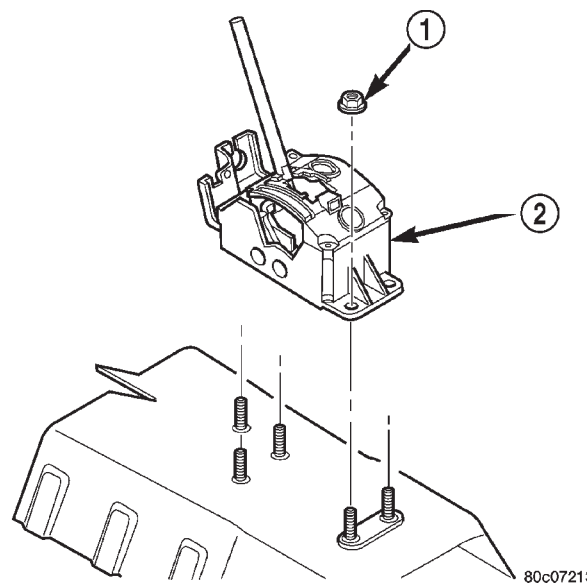

Fig. 62 Shifter Assembly Removal/Installation
(6) Remove the five floor pan attaching nuts from the shifter base and shift cable bracket (Fig. 62).
(7) Remove shifter assembly from vehicle (Fig. 62).
- (1) Install shifter assembly (Fig. 62).
- (2) Install five shifter/cable bracket to floor pan nuts and tighten to 31 N·m (23 ft. lbs.).
- (3) Make sure shift lever and transaxle are in "Park."